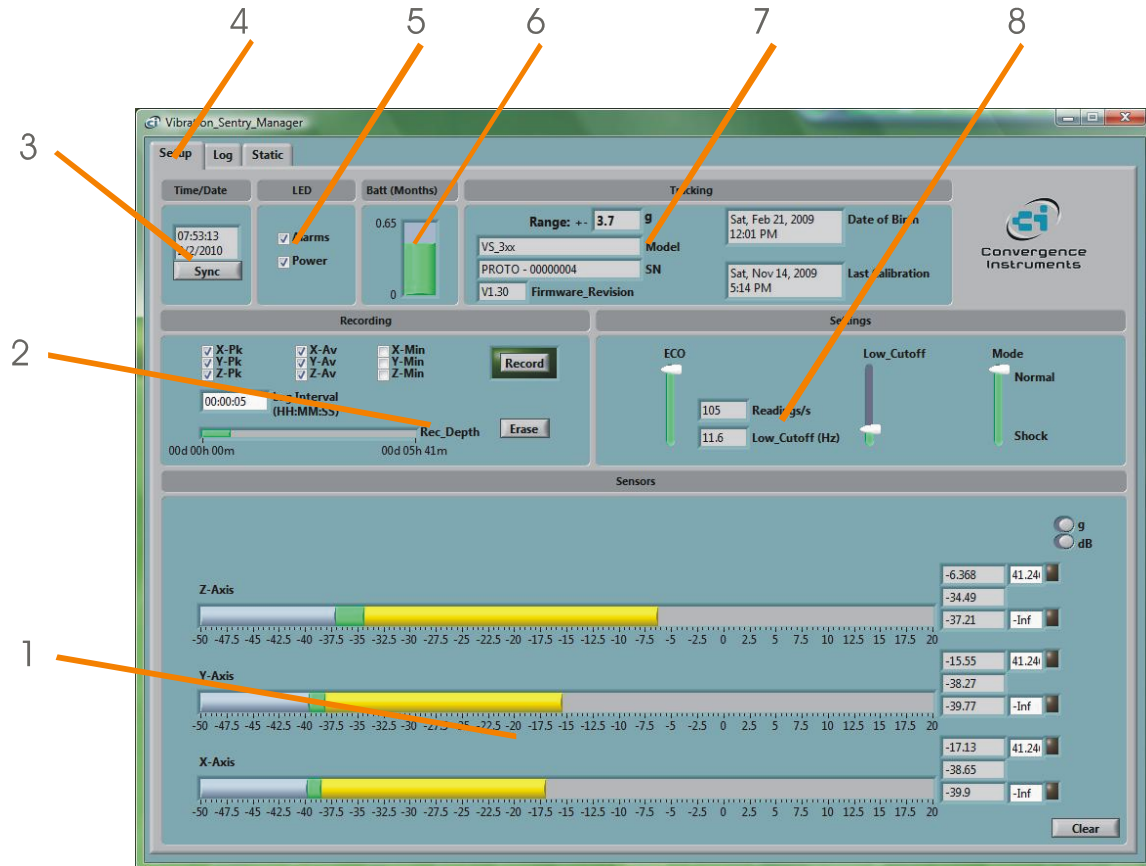

Figure 5: Vibration\_Sentry\_Manager Setup tab
- 5 Go into *Start\All Programs\Vibration\_Sentry* and run *Vibration\_Sentry\_Manager.exe*. The front-panel described in figure 5 appears, and the application tries to connect to the instrument. If it fails to find the instrument it indicates *No Device Found* and closes. If this is the case see the *Troubleshooting* section. Otherwise the application switches-on the *Vibration Sentry* and starts communicating with it.
4. The front-panel described in figure 5 appears, and the application tries to connect to the instrument. If it fails to find the instrument it indicates *No Device Found* and closes. If this is the case see the *Troubleshooting* section. Otherwise the application immediately starts communicating with the *Vibration Sentry*.
- **The Setup Tab:** Is used to setup the instrument and read current temperature and motion measurements (see figure 5).
The setup tab is seen in figure 5. The setup tab is divided into seven fields.